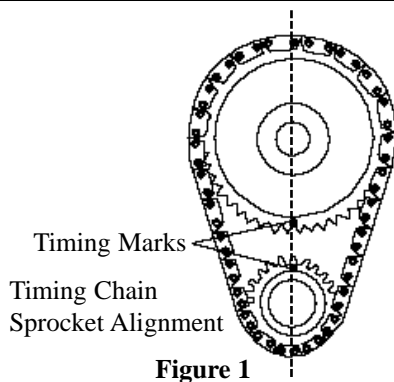

Figure 1
13. Rotate engine until timing marks are aligned as shown in Figure 1.
Install camshaft with timing marks lined up as recommended by factory specifications. See Figure 1.
After the cam is installed and timed correctly (see Figure 1), it will be necessary to check each pushrod for correct lifter pre-load.